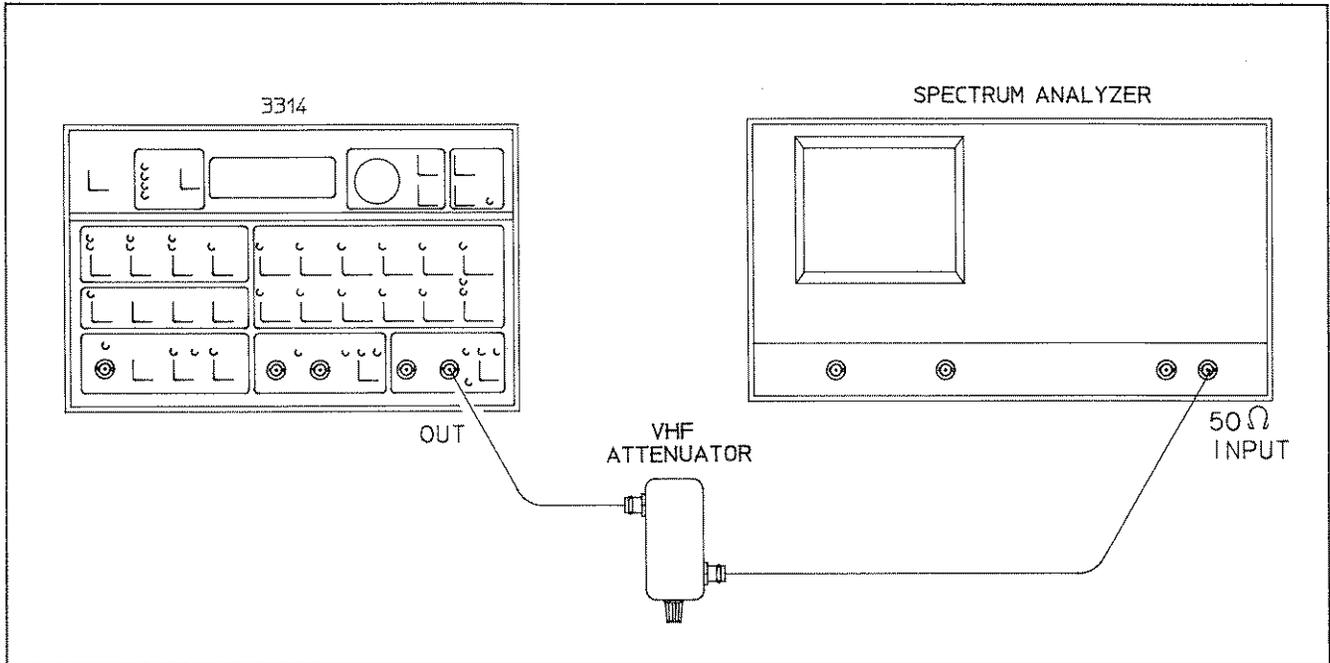

Figure 4-16. Step Attenuator Accuracy
- D. Connect the 3314A to the Attenuator and Spectrum Analyzer as shown in Figure 4-16.